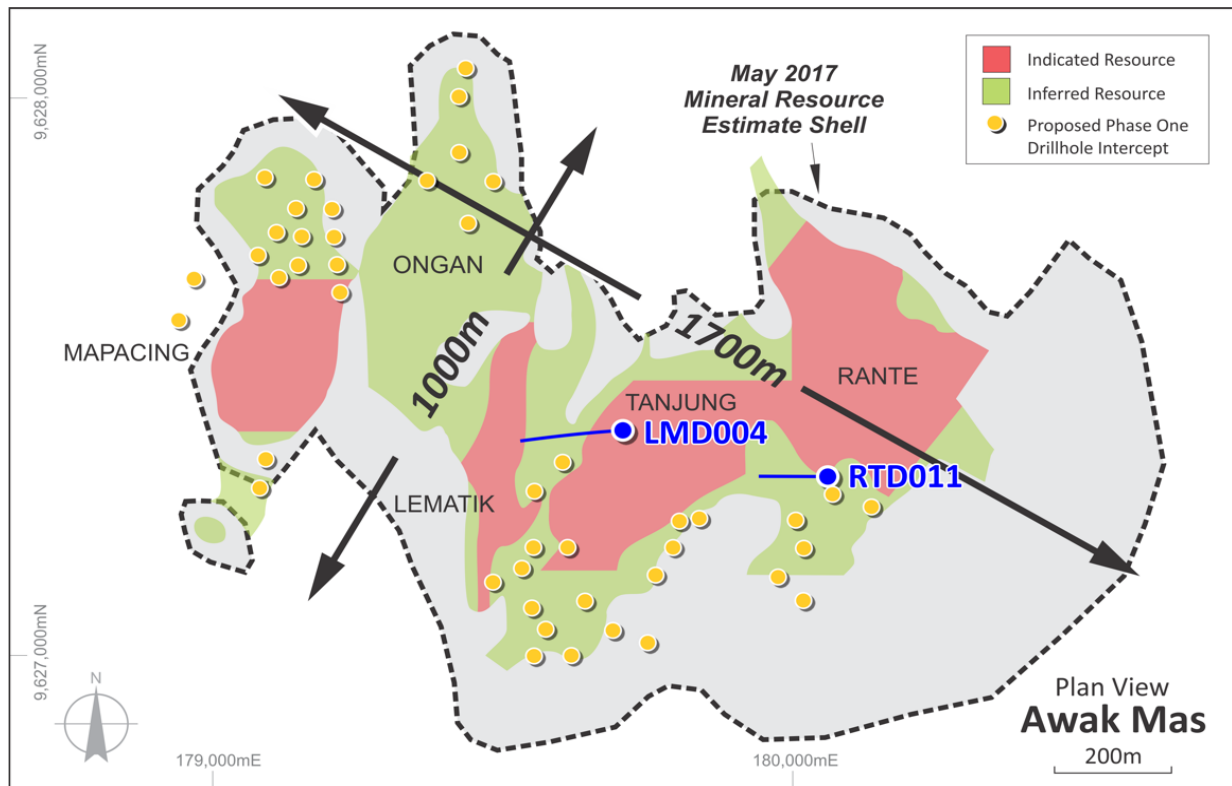

Figure 1: Awak Mas Deposit – location of drill holes RTD011 and LMD004 and proposed Phase 1 drilling
- Awak Mas deposit drill holes RTD011 and LMD004 both intersected multiple mineralised zones of strong quartz veining and brecciation over significant downhole intervals. Figure 1 shows the location of drill holes RTD011 and LMD004 within the Awak Mas deposit.